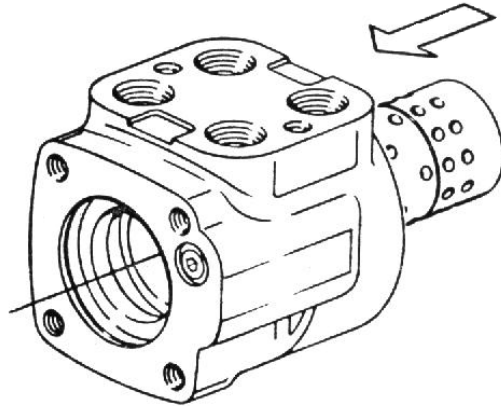

FIGURE 13
8. Position the spool and sleeve assembly so that the splined end of the spool enters the 14 hole end of housing first, see Fig. 13.